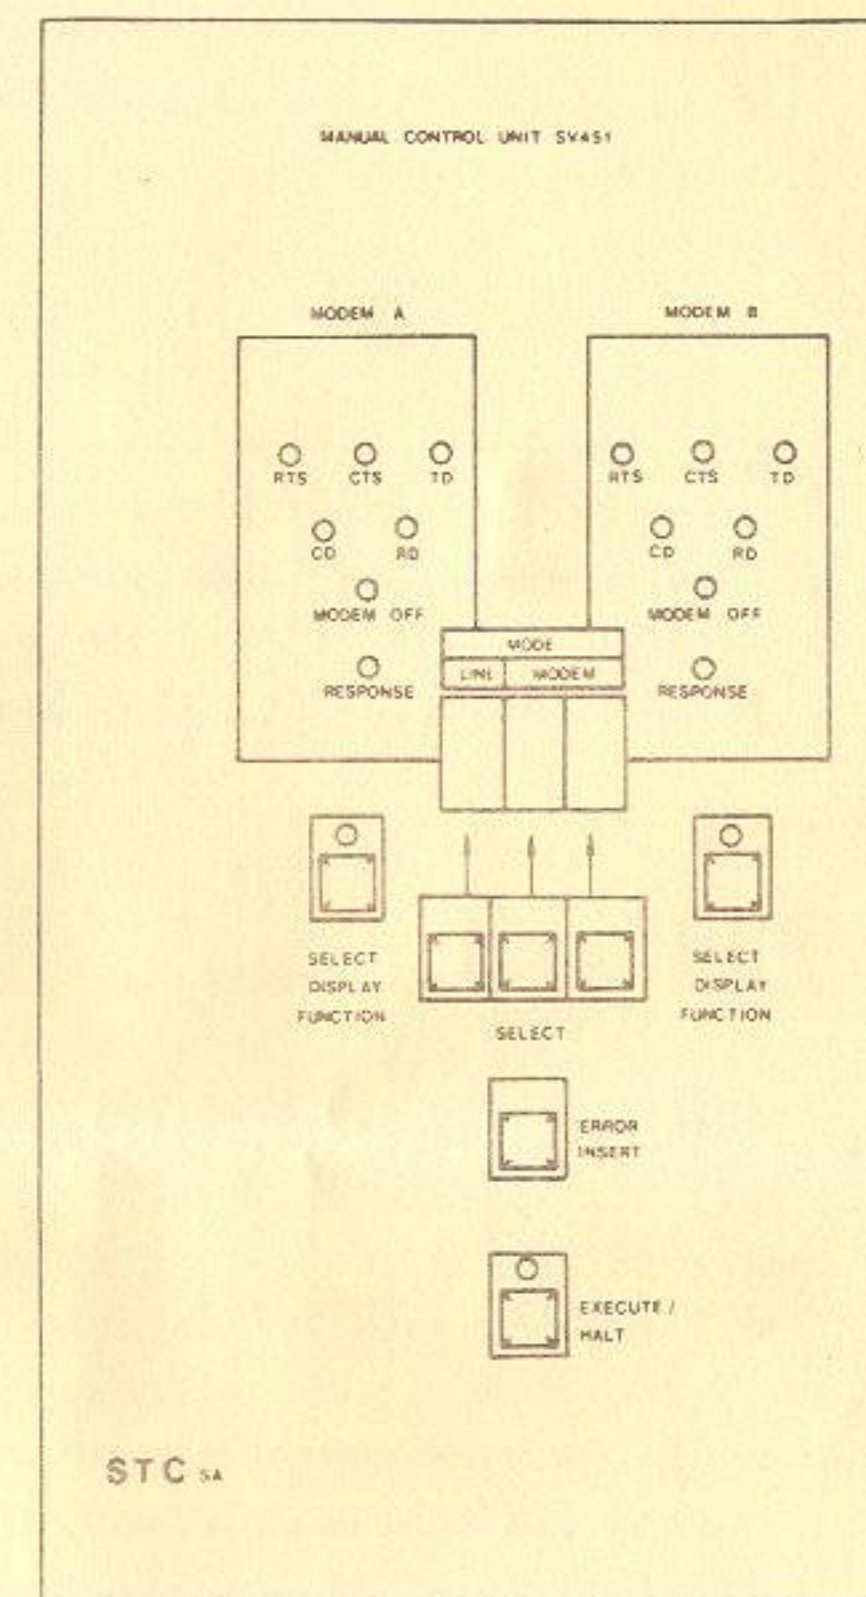

FIG. 9: SV451 FRONT PANEL
5.1 SV451 INDICATORS (see figure 9)